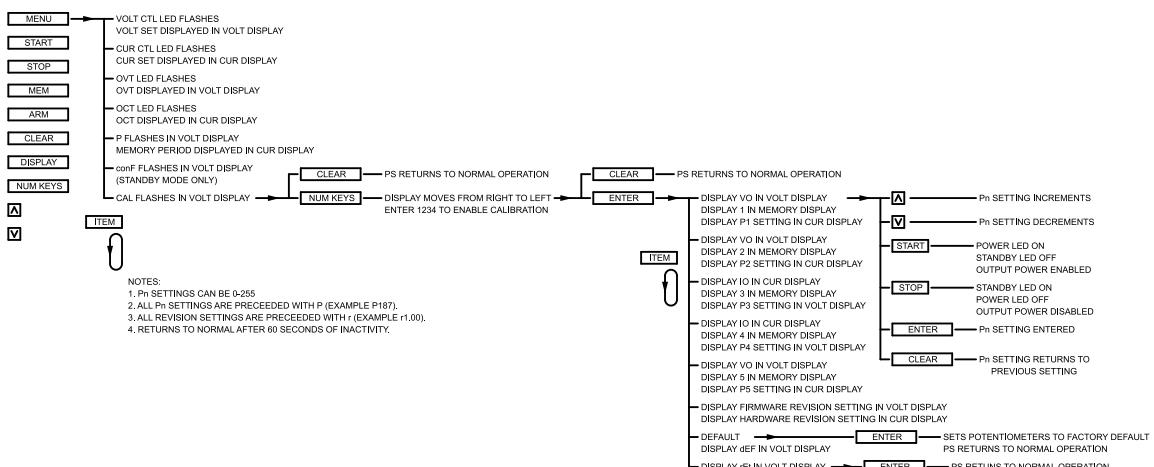

Figure 3.14. Front panel calibration menu
*Figure 3.14, “Front panel calibration menu”* illustrates how to utilize the calibration commands using the front panel. Calibration commands allow calibration of five digital potentiometers, display of the firmware and hardware revisions, and reset the digital potentiometers to the factory calibration settings. All of these commands can be made when the power supply is in either the standby or power mode state.